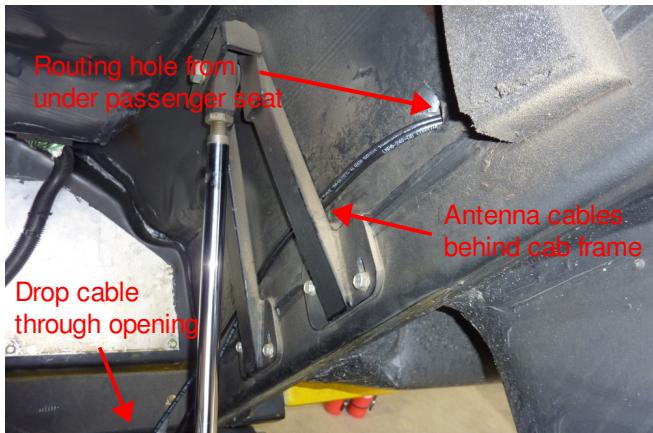

Figure 9: Antenna cable routed beneath cab frame under elevated cab
7. While the cab is elevated, route the Antenna Cables – SMA end first – into the cab from the cavity, under the cab and above the gas tank. Keep the cables secured behind the cab frame, and leave them hanging free as the cable slack will have to be drawn up and coiled in the cargo hold beneath the passenger seat. See example in figures 9 and 10. Route the larger Type-N side of the Antenna Cables around the cab pivot joint and down to the main forward-facing cross-member of the frame, near to where the Outrigger Antenna will be mounted. For routing, follow an established routing path of the factory installed wiring harness/plastic sheathing. Leave the connectors hanging free over the beam with 12-18 inches of slack.